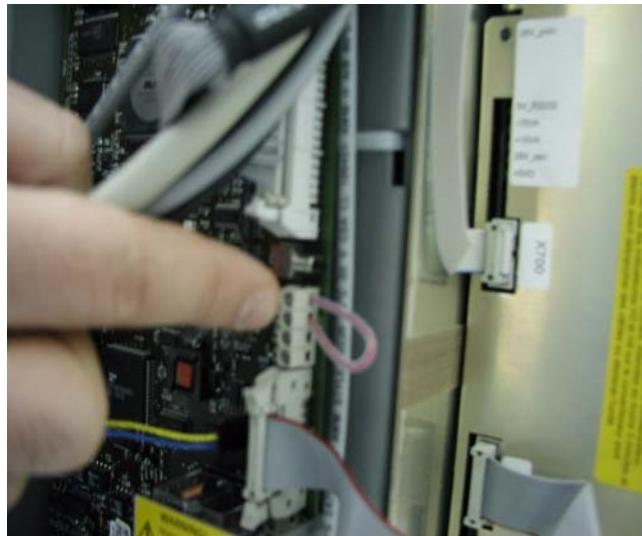

Fig. 1 Connecting the door switch
1. To connect a door switch, remove the jumper from the X754 (Pin 1,2) located on the master board D750, see Fig. 1, and connect the door switch instead.
If a radiation protection door switch is not used, a jumper, see Fig. 1, on the master board D750 at connector X754 (Pin 1,2) has to be inserted.